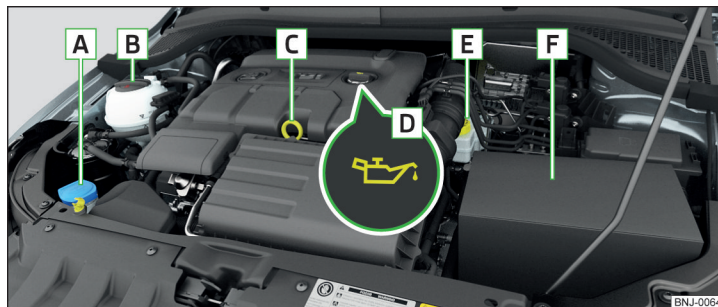

Fig. 168 Arrangement (example) in the engine compartment
- Unscrew the cap of the engine oil filler opening » Fig. 168 on page 138.